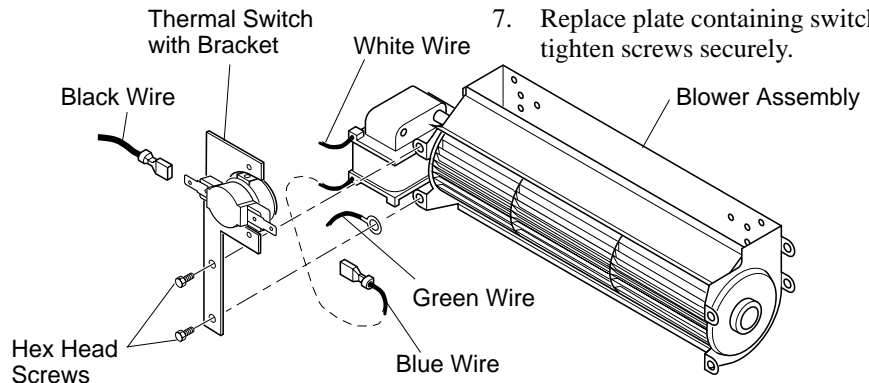

Figure 30 - Attaching Thermal Switch to DA3610T Thermostatically-Controlled Blower Accessory
1. Remove the two hex head screws on the blower assembly as shown in Figure 30.